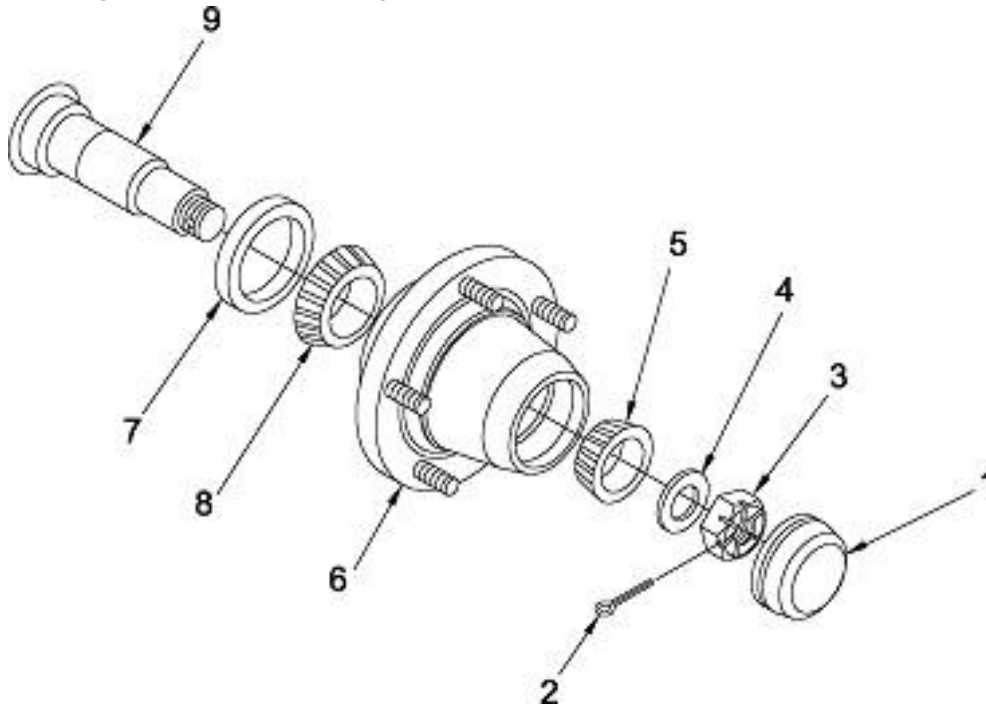

FIGURE 16 - Wheel Bearing Service
9.18.1 Wheel Bearing Service (FIGURE 16)